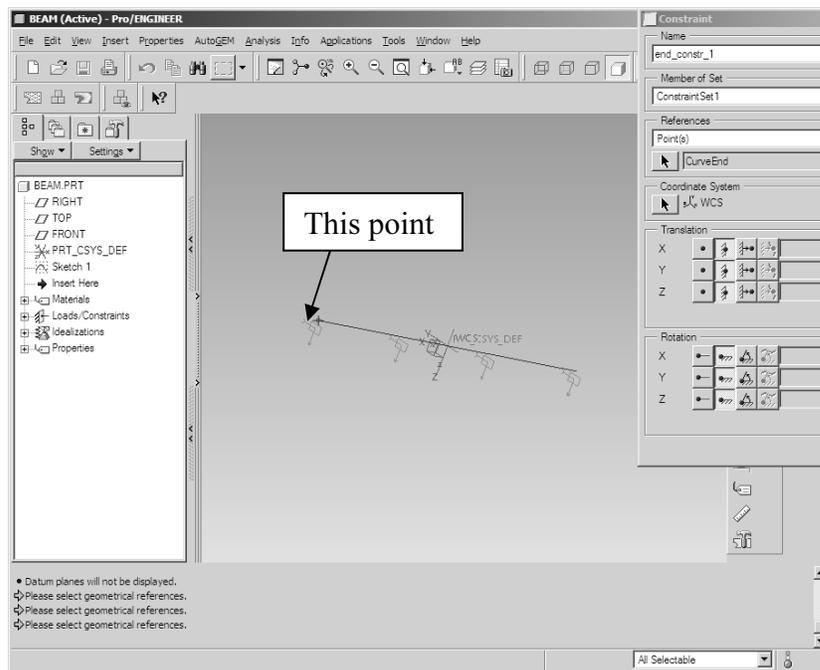

Figure 15
- Under References, **select Points**. Click on the arrow icon  and select the end point as shown in Figure 15: